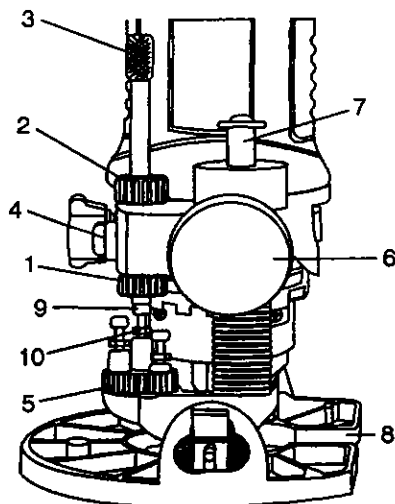

Fig. 17
- 1 Turn lower depth stop lock nut (1) to the bottom of depth stop rod and upper depth stop lock nut (2) to the top of depth stop rod (3) (see Fig 17)
- 2 Push depth stop quick release button (4) and raise the depth stop rod to its maximum height and then release the button.
- 3 Rotate plunge action turret (5) until the shortest stop screw is under the depth stop rod